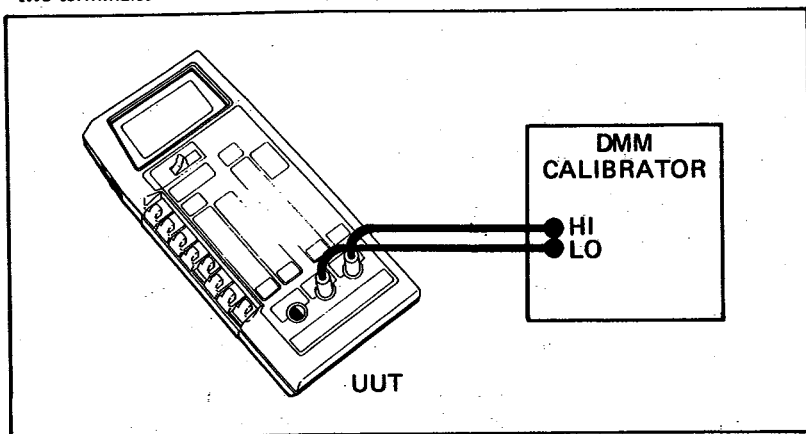

Figure 4-3. General Equipment Connection
3. Connect the equipment as shown in Figure 4-3.
1. Connect the equipment as shown in Figure 4-3 and release the mA-°C-V/k Ω /ns function switch.
2. Connect the equipment as shown in Figure 4-3.